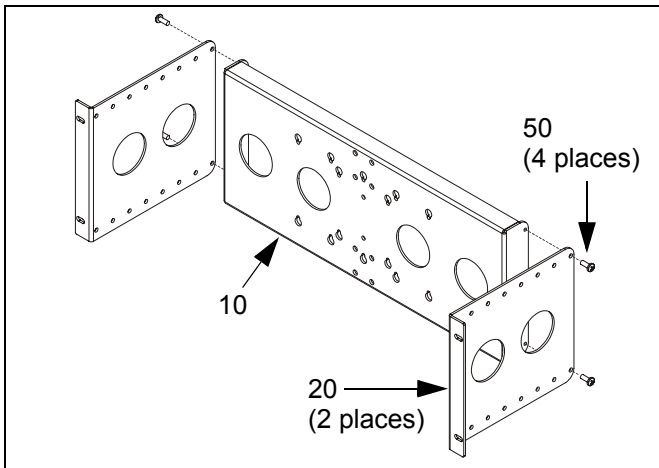
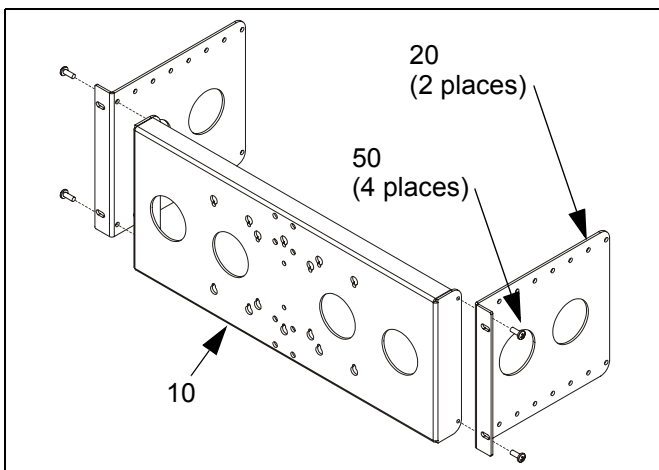

Figure 2: Install Side Brackets - 6" Depth
Figure 3: Install Side Brackets - 1" Extension
- Determine location of bracket (10) in equipment rack. Location is adjustable in 1" increments from approximately 6" depth (within rack) to 1" extension (in front of rack). Consider the following items:
- Size of display: If display width (i.e., width of case, not screen size) is greater than 17" then bracket (10) must be mounted in *front* of OR *flush* with equipment rack. If display width is 17" or less then bracket (10) may be mounted at any location.
- Using Phillips screwdriver, install screws (50) through brackets (20) into desired threaded holes in bracket (10) (See Figure 2)(See Figure 3). Ensure brackets (10 and 20) are oriented as shown. Tighten screws (50).